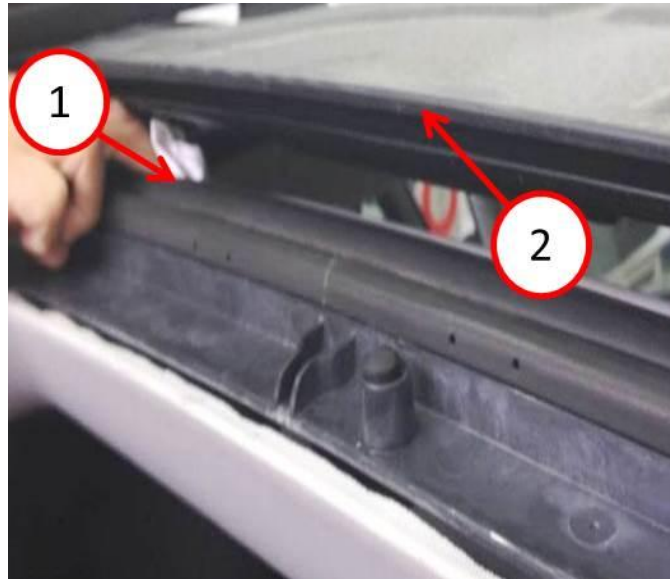

Fig. 3 Rear Portion Of Primary Seal
14. With the front roof panel in the vent position, clean and lubricate the remaining portion of the primary seal not accessible when the front panel was in the completely open position (Fig. 3).